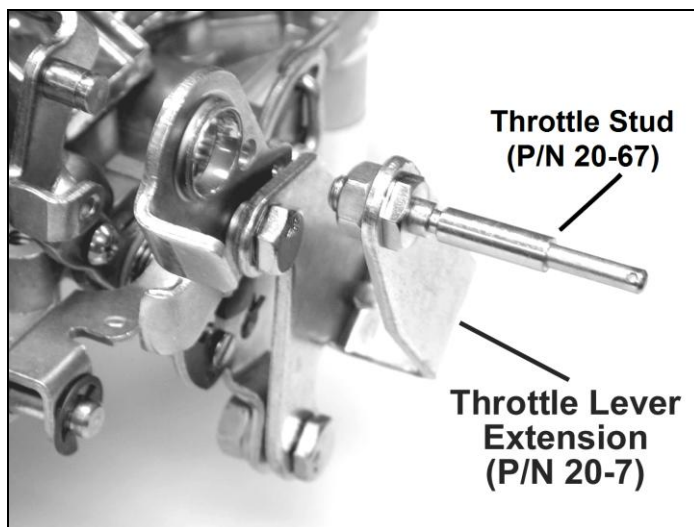

Figure 4—Chrysler applications
1. Unless you are replacing an existing Holley® carburetor (which already has a lever extension arm), you may need to purchase and install a throttle lever extension (Holley® P/N 20-7) on the carburetor. Remove the throttle stud and nut from the original carburetor. You can purchase a new stud from your Holley® dealer (Holley® P/N 20-67). Install the stud in the throttle extension lever (Figure 4).